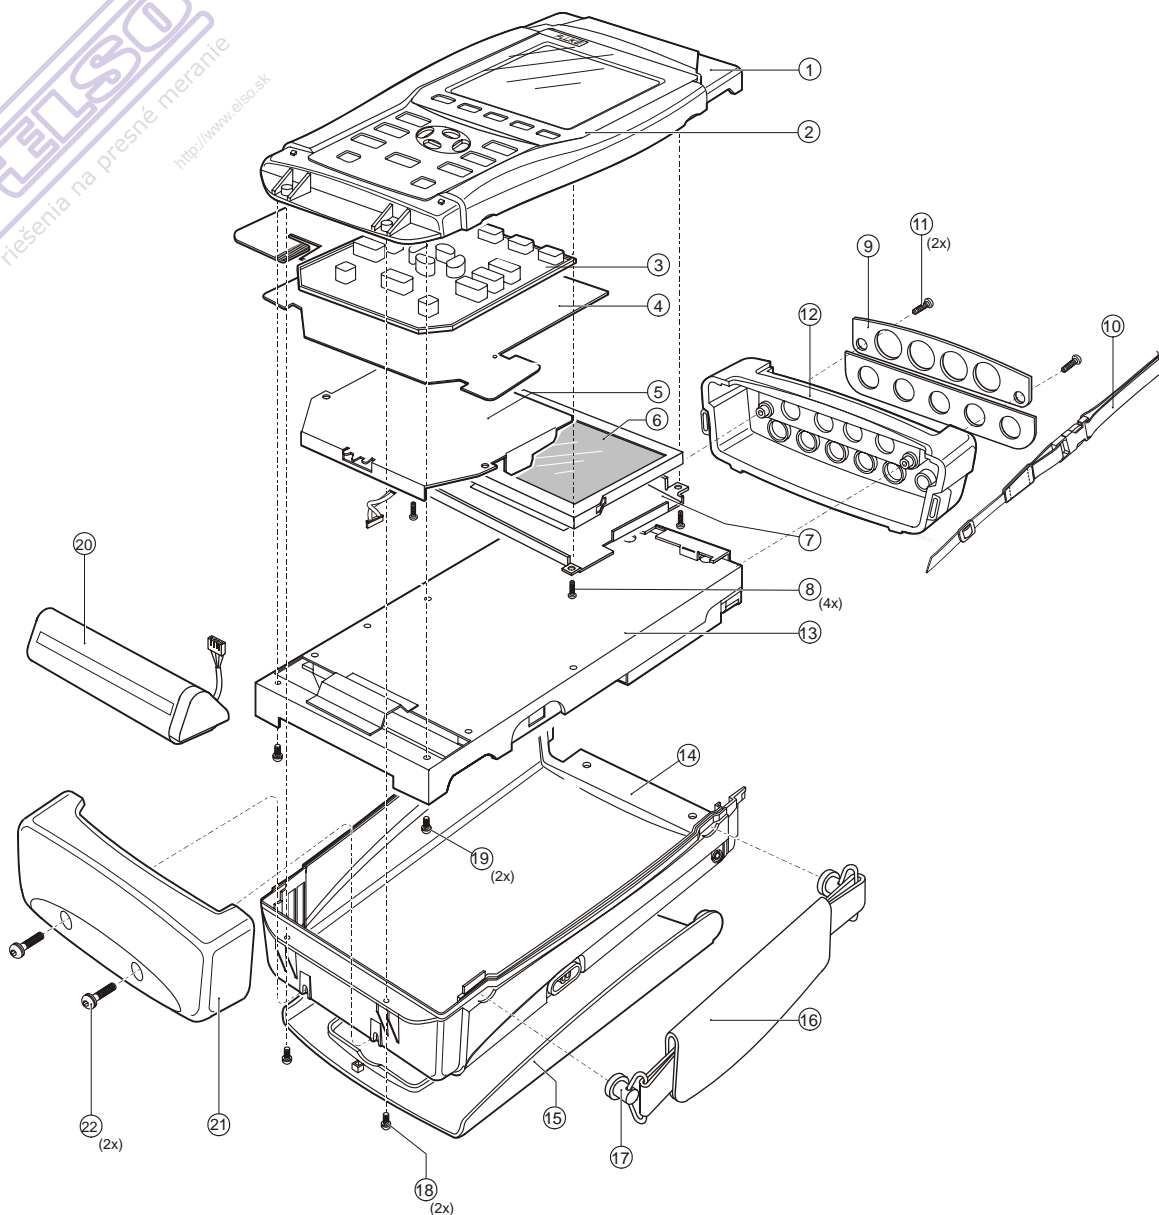

Figure 5-6. Final Assembly Details
Use the following procedure to remove the tilt stand and hang strap (Figure 5-6, item 15 and item 10).
The side-strap (figure 5-6, item 16) can be attached at the right or left side of the Analyzer. Use the following procedure to replace the strap, or to change the strap position.
1. To remove the strap, unfold the strap ends (provided with Velcro tape), and pull the ends out of the strap holders (item 17).
Referring to Figure 5-6, use the following procedure to remove the main PCA unit.
There are no serviceable parts in the display assembly. Referring to Figure 5-6, use the following procedure to remove the display assembly.
The LCD window/decal (Figure 5-6, item 2) is glued on the top cover. To replace it do the following:
Referring to Figure 5-6, use the following procedure to remove the keypad and the keypad foil.
Reassembling the Analyzer is the reverse of disassembly. However you must follow special precautions when reassembling the Analyzer. Refer to figure 5-6.